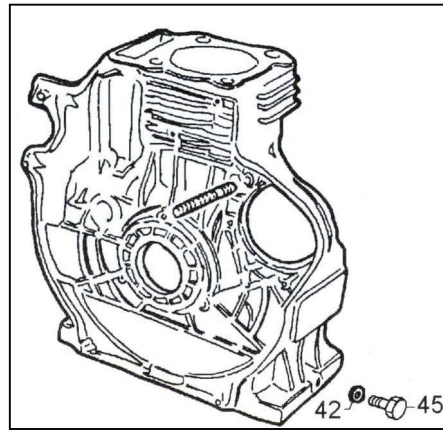
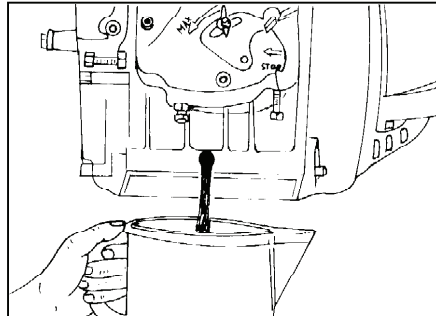

Figure 24
Figure 25
1. Remove the oil drain plug (figure 24, #45) and discard of oil properly. **Note that there are two oil drains 180 degrees apart. See figure 25.**
2. Replace oil drain plug (figure 24, #45).